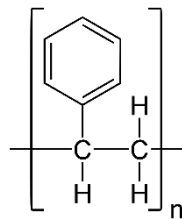

Figure Q4a: Repeating unit of PS
4. (a) Polystyrene (PS) is a versatile synthetic polymer with a wide range of applications in various industries. It is known for its lightweight, rigid, and insulating properties. The chemical structure shown below in Figure Q4a.